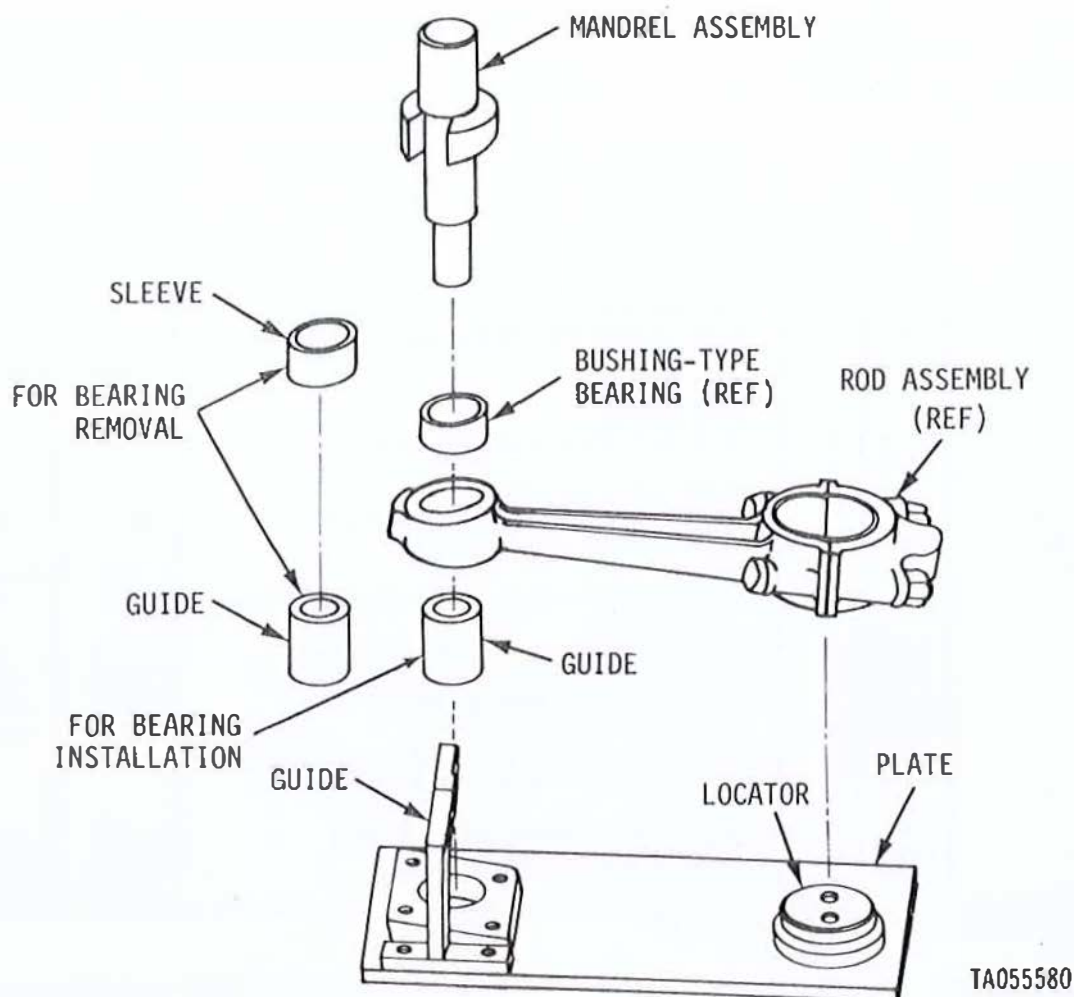
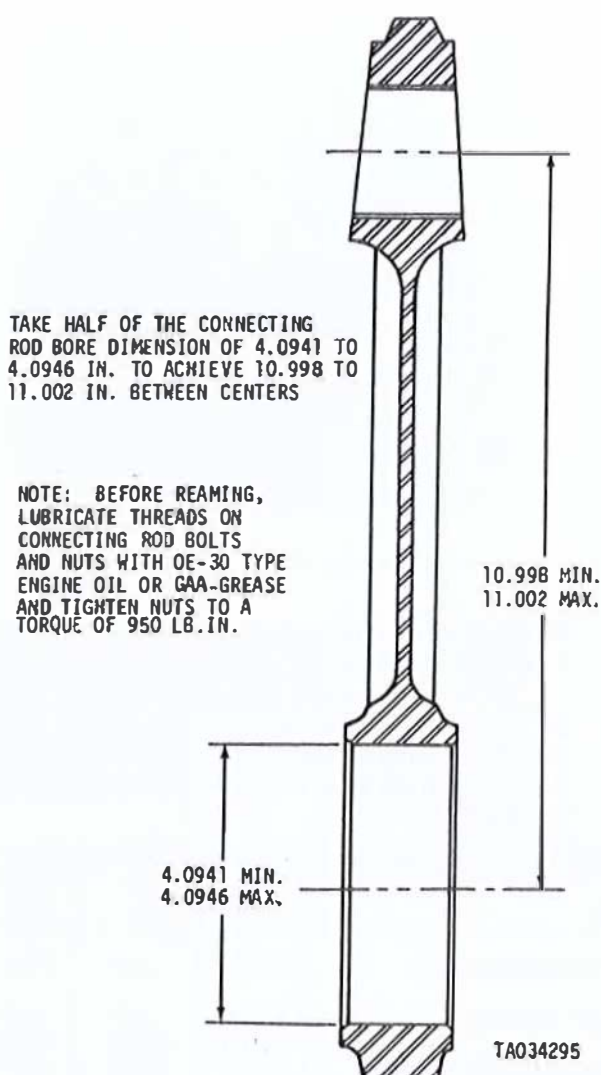

Figure 3-174.1. Removing or installing bushing-type bearing using improvised tool.
Figure 3-175. Connecting rod bore center dimensions.
(3) *Connecting rod assembly.* Discard connecting rods that are bent or distorted. Straightening of connecting rods is not permitted. Replace connecting rod assemblies which are not within limits specified in repair standards (table 3-8). Replace worn or damaged connecting rod bushing-type bearings using improvised tool (fig. 3-174.1). Burnish to seat bearing, then finish ream to 2.1275 to 2.1277 inches. Connecting rod bore center dimension (fig. 3-175) must be maintained.